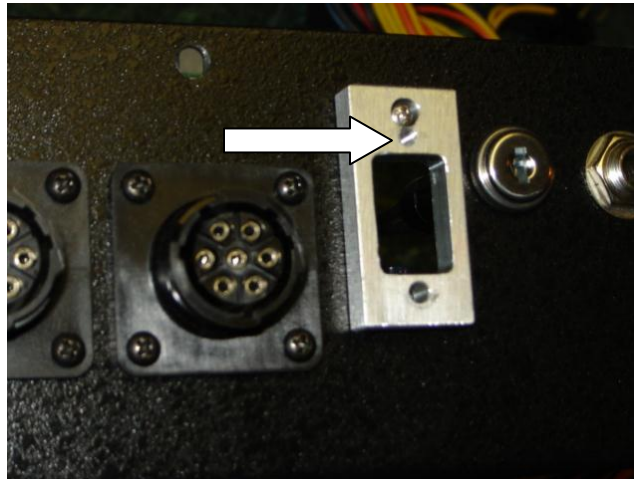

Figure 1
- 4) Attach adapter block to the top of the case using the included Fillister screw (small Phillips head) screw. See figure 1. Tighten securely.